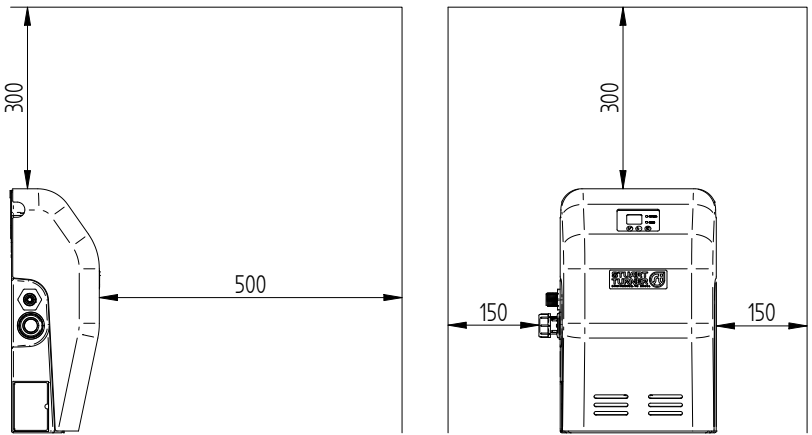

Fig. 2
- 2.12 **Access and minimum clearance requirements:** For emergencies and maintenance the SPU Mini must be easily accessible and have the minimum clearance around it as laid out in Fig. 2. Additional access to the front of the unit will be required to operate the keypad and view the display.